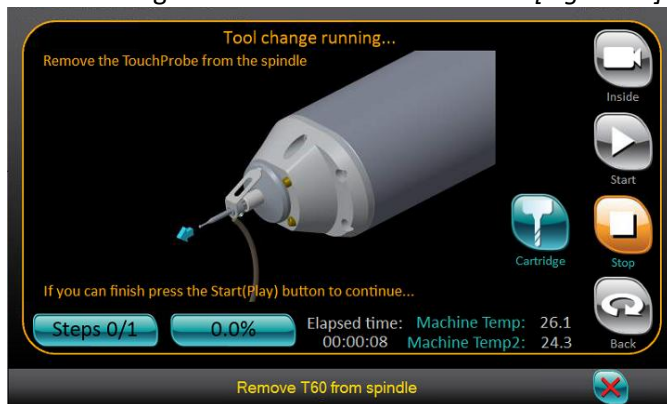

Figure 39 Removing TouchProbe
5. Open the cartridge and remove the TouchProbe [Figure 39].